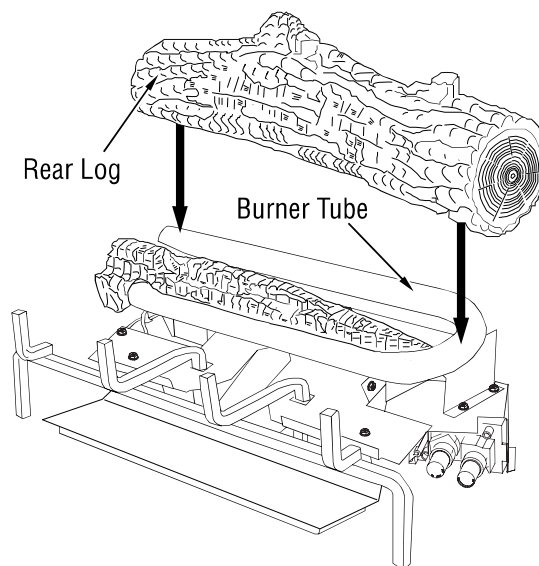

Figure 51 - Installing Rear Log
2. Place the rear log on the base assembly as shown in **Figure 51**. The rear log has grooves in the bottom which will allow the log to sit on the burner and behind the bottom ember log.